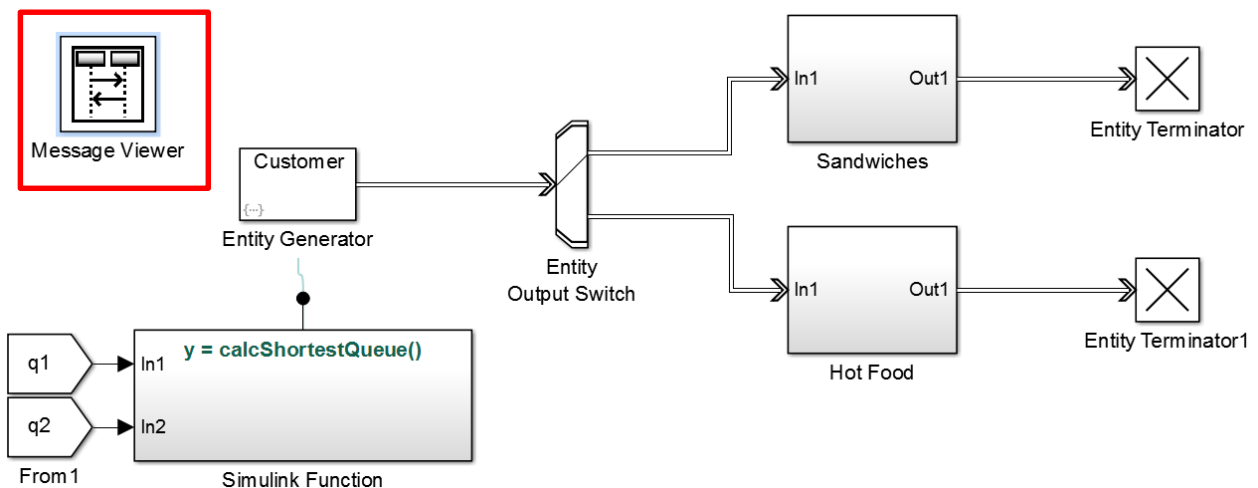

Figure 31: Add the Message Viewer block
1. Add the Message Viewer block (located in the SimEvents library) to the top level of your model as shown in Figure 31.